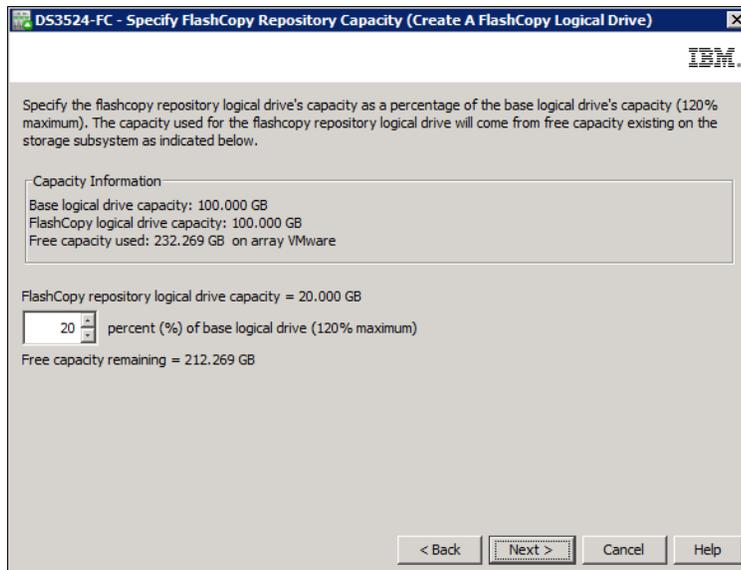

Figure 2-8 Specify Repository Logical Drive Capacity: Percent value
- b. The Specify Repository Logical Drive Capacity window (Figure 2-8) displays. Set the repository drive capacity as a percentage of the base logical drive's capacity. This value defaults to 20%.